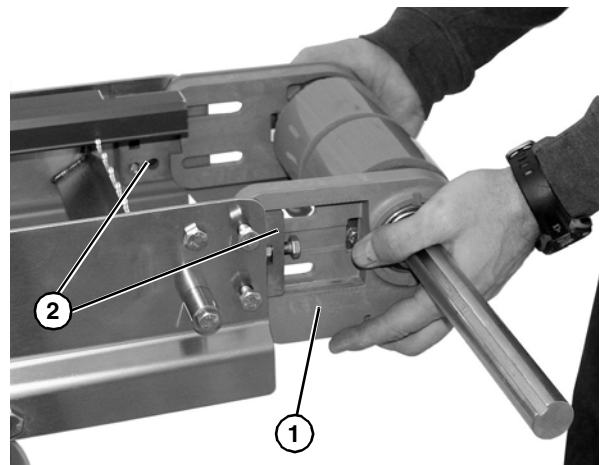

Figure 39
4. Slide the drive spindle assembly (**Figure 39, item 1**) off the drive tail blocks (**Figure 39, item 2**).